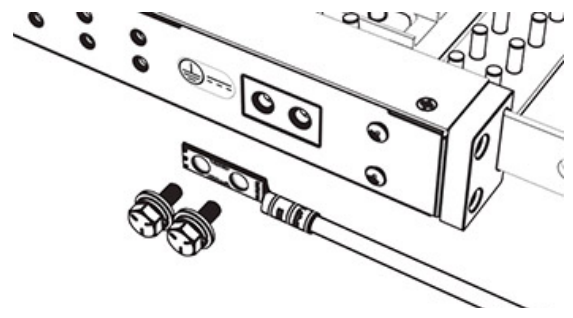

Figure 2. Chassis ground
**Step 1.** Secure the ground cable to the chassis by tightening 1/4 in. hardware (see Figure 2).